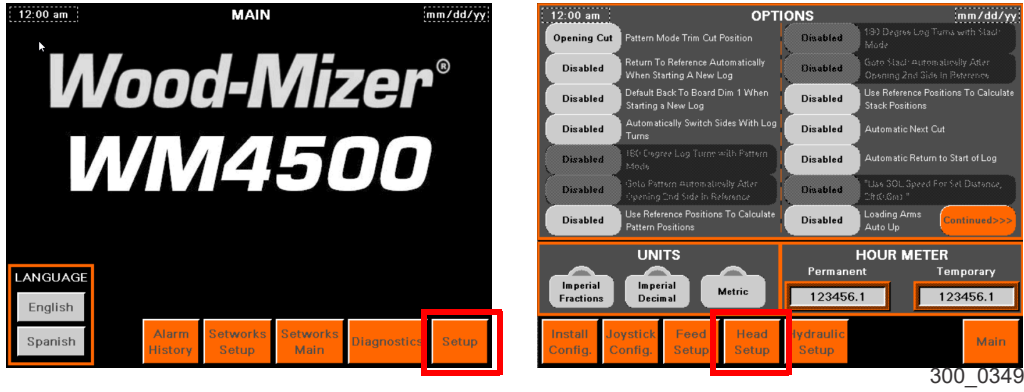

FIG. 4-28
See Figure 4-28.
1. From the Main screen press the Setup button. (See Figure 4-28.)
2. On the Setup screen press the Head Setup button. (See Figure 4-28.)